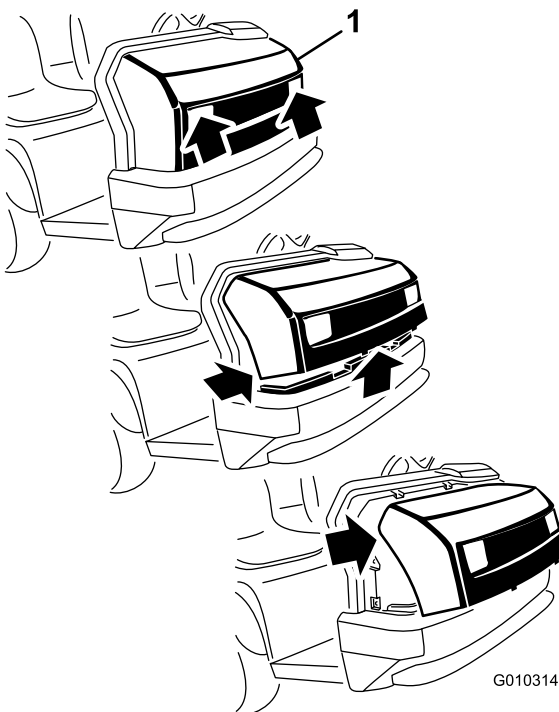

Figure 34
1. While grasping the hood in the headlight openings, lift up the hood to release the lower mounting tabs from the frame slots (Figure 34).
2. Pivot the bottom of the hood upward until the top mounting tabs can be pulled from the frame slots (Figure 34).
3. Pivot the top of the hood forward, and unplug the wire connectors from the head lights (Figure 34).